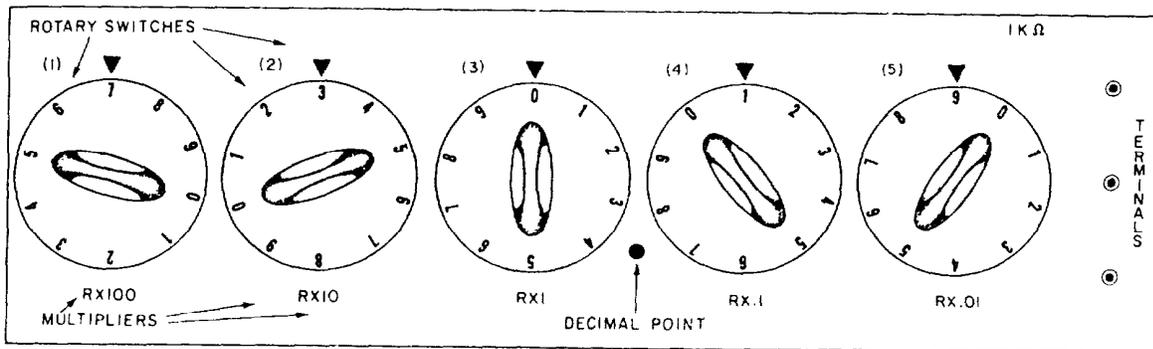

Figure 3-34.—Decade resistance box.
sometimes called a decade box. Figure 3-34 shows an example of this box. These boxes, generally oblong in shape, contain variable resistors. On top of the boxes you will see either four, five, or six rotary switches, depending on the type of box used. Each switch will have the numbers 0 through 9 on it. Below each switch you will see a number known as the multiplier. Three terminals are on the right-hand side of the box to connect it with the circuit(s). Some of the boxes may also have a decimal point, such as between switches (3) and (4) in figure 3-34.
Each rotary switch on the box controls its own variable resistor. These resistors are arranged so that each resistor's value can be collectively added to each other. Using the figure and reading the switches from left to right, (1) is in the hundreds place, (2) is tens, (3) is ones, (4) is tenths, and (5) is hundredths. To determine the value of a resistor, such as (2) in the figure, read the dial setting, which is 3, and its multiplier, which is $RX10$. This becomes $3R \times 10$ or 30 ohms $\times 10$. Therefore, the value of resistor (2) is 30 ohms at this setting. Calculate all of the other resistors in the same manner. Then add the values of each resistor together to get the total resistance of the box. What is the total resistance of the box in figure 3-34? If you figured it out correctly, it would be 730.19 ohms.